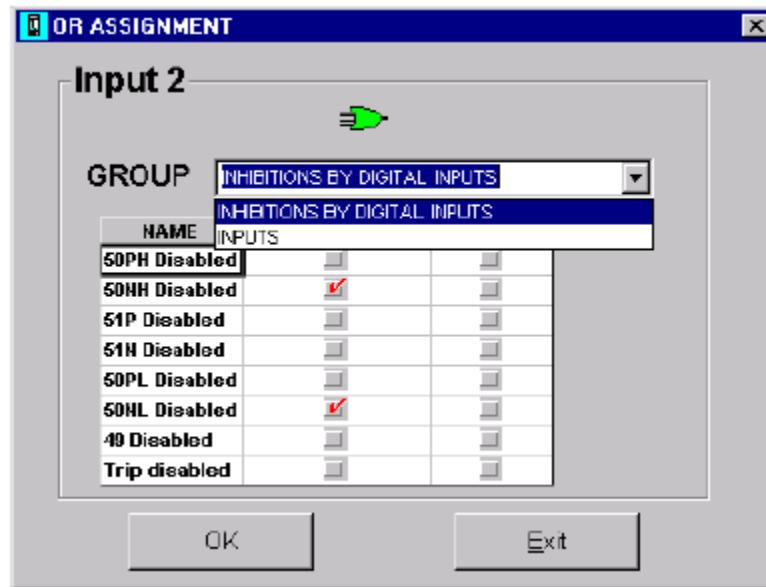

Figure 4–12: OR ASSIGNMENT
- **OR**: activates the **OR button** for the I/O configuration column (see previous point). The window that appears when the OR button is pressed can be seen in Figure 4–12: